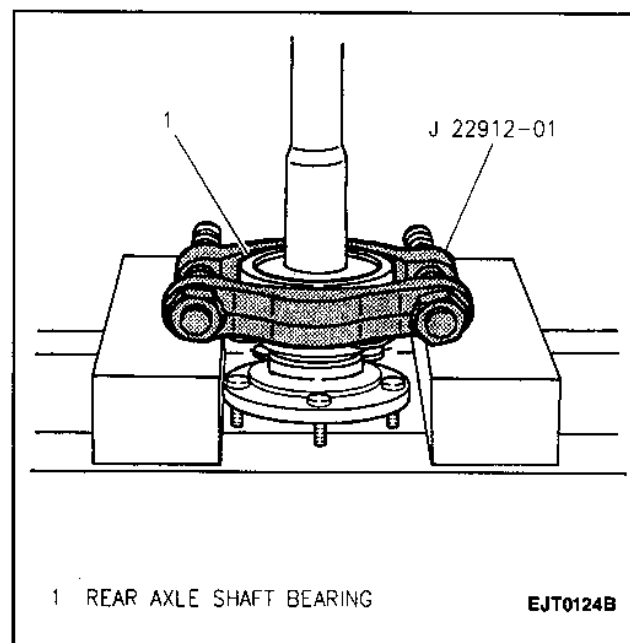

Figure 12—Removing Rear Axle Shaft Bearing
12. Rear axle shaft bearing from rear axle shaft using a J 22912-01 and a hydraulic press. Place the J 22912-01 on the rear axle shaft between the rear axle shaft bearing and the rear axle shaft bearing retainer. Then place the rear axle shaft in a hydraulic press and slowly press the rear axle shaft bearing off the rear axle shaft (Figure 12).